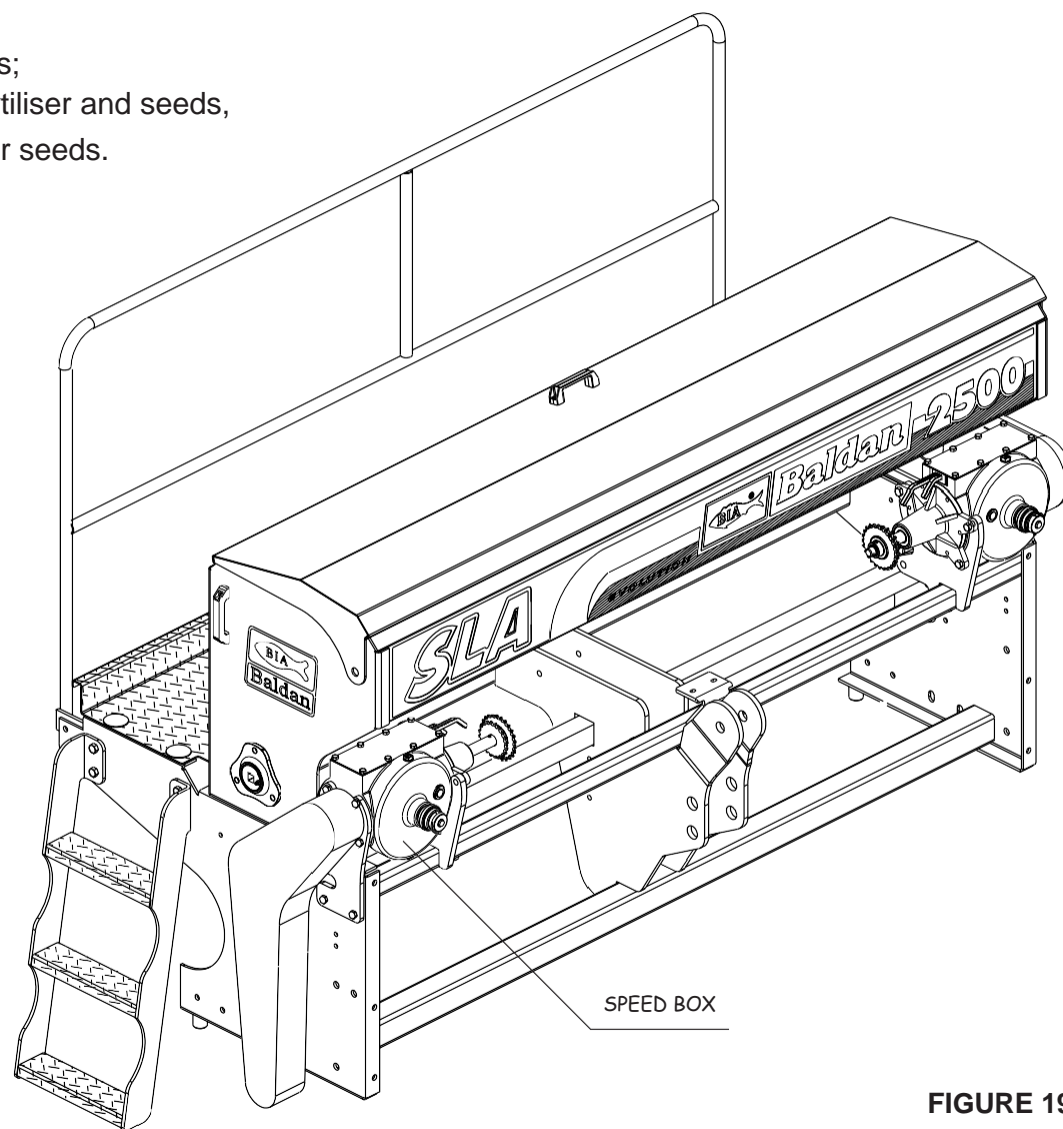

FIGURE 19
- SLA *Speed Box Air* 2500. (FIGURE 19)